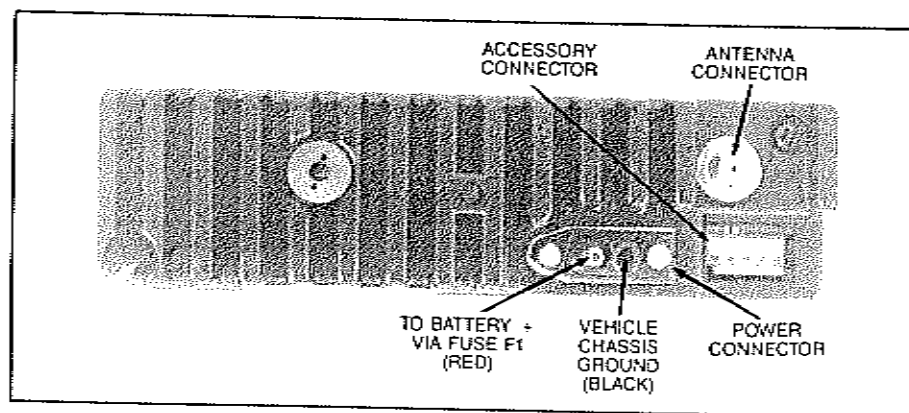
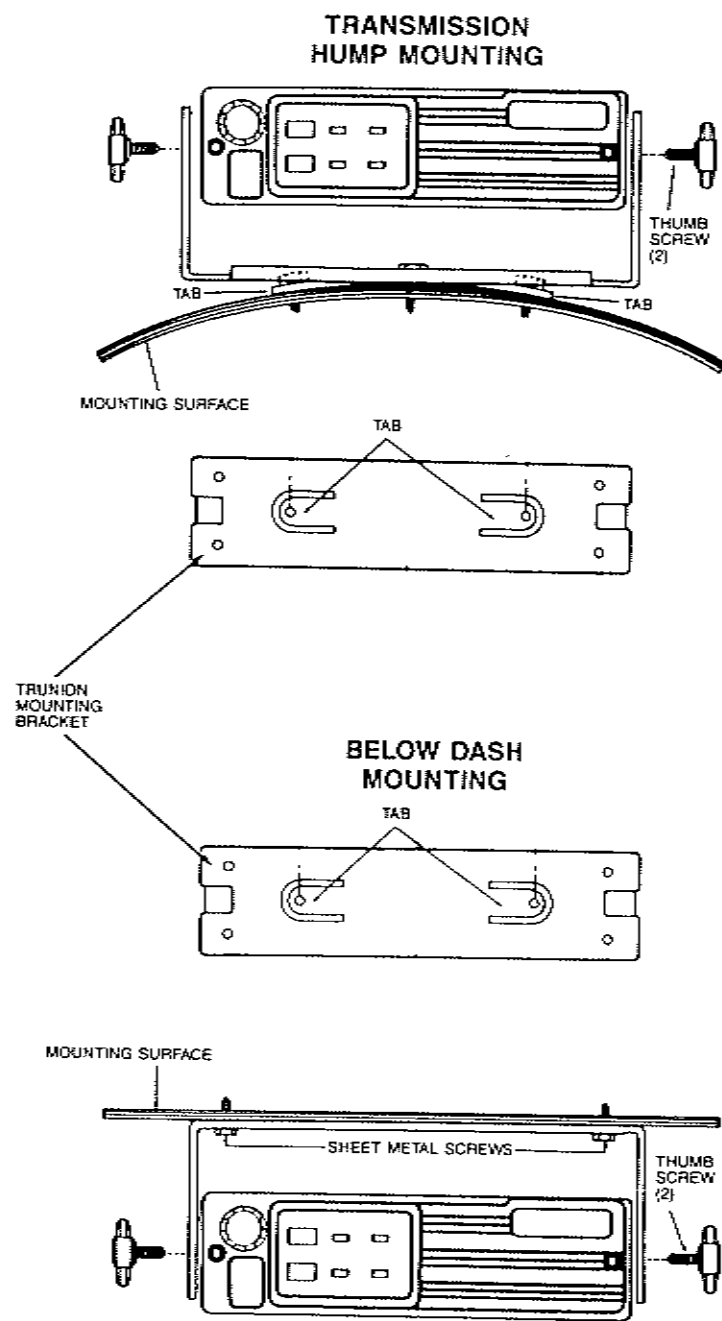

Figure 3. Connections to Radio Rear Panel
Figure 4. Trunnion Mount for Radio
## NON-LOCKING TRUNNION INSTALLATION (See Figure 4)
- (1) Select the location to mount your radio either on the TRANSMISSION HUMP OR UNDER THE DASH (see Figure 4).
- (2) Using the trunnion mounting bracket as a template, mark the positions of the holes on the mounting surface. Use the innermost four holes for a curved mounting surface such as the transmission hump, and the four outmost holes for a flat surface such as under the dash.
- (3) Centerpunch the spots you have marked and drill a 5/32" hole at each.
- (4) Secure the trunnion mounting bracket to the surface with the four (10-16x3/4") screws provided.
- (5) Place the radio in the trunnion mounting bracket and secure it with the two thumb screws provided.
- (6) To complete your radio installation plug the power cable into the radio power connector (see Figure 3).
- (7) Mount the antenna using the instructions provided with the antenna kit. Run the coaxial cable to the radio mounting location. If necessary, cut off the access cable and install the cable connector.
- (8) Connect the antenna cable connector to the radio antenna connector on the rear of the radio (see Figure 3).
- (9) Mount the microphone clip. Follow instructions provided with the microphone clip.
- (10) Plug the Microphone into the front panel connector. Your microphone has a telephone type connector at the end of its cord. Connect and disconnect your Radio Microphone in the same manner you connect and disconnect your telephone handset.